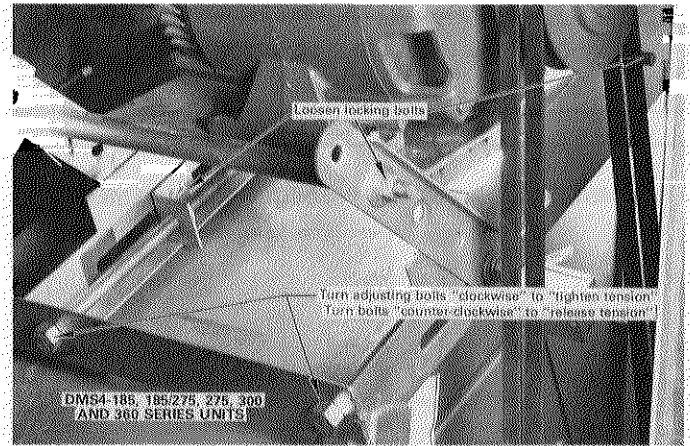
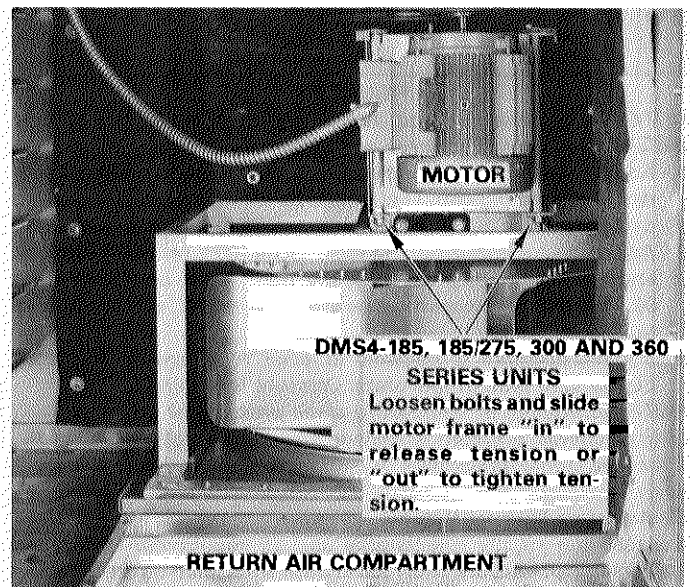

FIGURE 92
FIGURE 94
- 3 - Compare the applied force with the value given in Table 18. If the force is between the minimum and maximum range shown, the drive tension should be satisfactory. A force below minimum value indicates an undertensioned belt. A force that exceeds maximum value indicates an overtensioned belt. Adjust the belt tension for the indoor blower as shown in Figures 92 and 93. Adjust the belt tension for the return blower as shown in Figures 94 and 95.